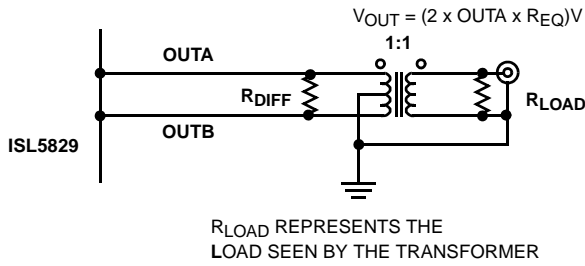
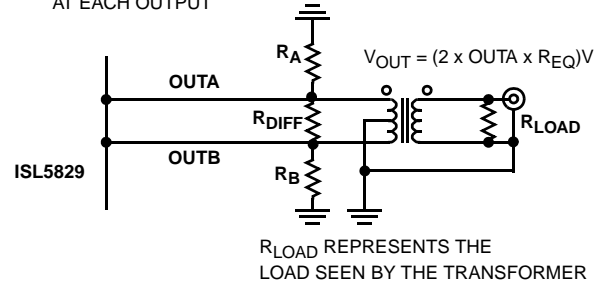

FIGURE 13. OUTPUT LOADING FOR DATASHEET MEASUREMENTS
FIGURE 14. ALTERNATIVE OUTPUT LOADING
**Typical Performance** (+3.3V Supply, Using Figure 13 with  $R_{DIFF} = 100\Omega$  and  $R_{LOAD} = 50\Omega$ )
**Typical Performance** (+3.3V Supply, Using Figure 13 with  $R_{DIFF} = 100\Omega$  and  $R_{LOAD} = 50\Omega$ ) (Continued)
IOUTA and IOUTB can be used in a differential-to-single-ended arrangement to achieve better harmonic rejection. With RDIFF= 50Ω and RLOAD=50Ω, the circuit in Figure 13 will provide a 500mV (-2.5dBm) signal at the output of the transformer if the full scale output current of the DAC is set to 20mA (used for the electrical specifications table). Values of RDIFF= 100Ω and RLOAD=50Ω were used for the typical performance curves to increase the output power and the dynamic range. The center tap in Figure 13 must be grounded.
In the circuit in Figure 14, the user is left with the option to ground or float the center tap. The DC voltage that will exist at either IOUTA or IOUTB if the center tap is floating is IOUTDC × (RA/RB) V because RDIFF is DC shorted by the transformer. If the center tap is grounded, the DC voltage is 0V. Recommended values for the circuit in Figure 14 are
$R_A=R_B=50\Omega$ ,  $R_{DIFF}=100\Omega$ , assuming  $R_{LOAD}=50\Omega$ . The performance of Figure 13 and Figure 14 is basically the same, however leaving the center tap of Figure 14 floating allows the circuit to find a more balanced virtual ground, theoretically improving the even order harmonic rejection, but likely reducing the signal swing available due to the output voltage compliance range limitations.